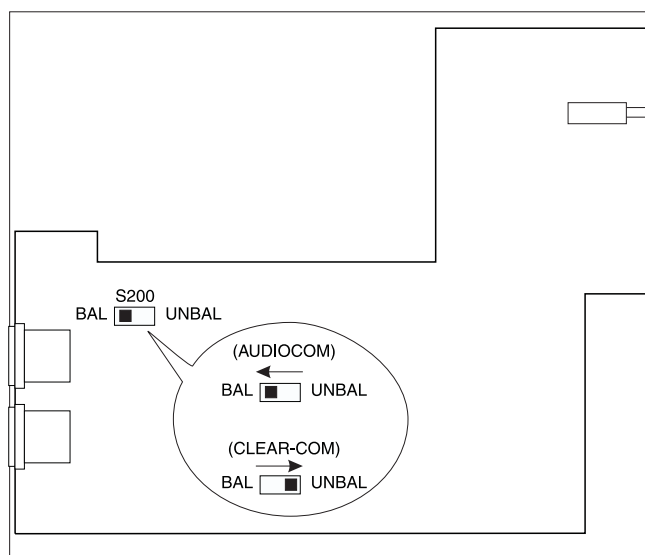

Figure 2. Audiocom / Clear-Com Selector Switch (Top Cover Removed)
5. Audiocom / Clear-Com Selector Switch (Figure 2): This selector switch sets the PS2000L for compatibility with either Audiocom (BALANCED) or Clear-Com (UNBALANCED). Compatibility includes channel connector pin-outs, channel power requirements, and call signaling requirements. The PS2000L is shipped with this switch in the Audiocom position.
The Audiocom / Clear-Com switch (S200) is factory set for use with Audiocom intercom stations. Before using the PS2000L with Clear-Com, remove the top cover and change the setting as shown in Figure 2. The top cover is secured by five screws on the top and three screws on each side.